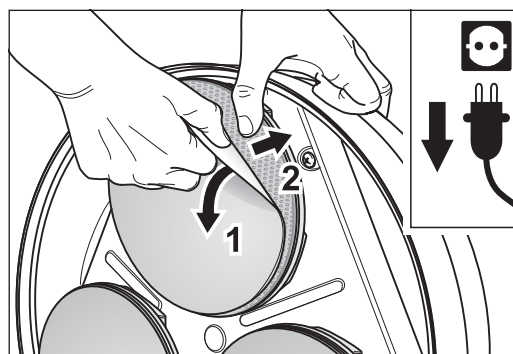

Fig. 31 Do not remove the flexible Velcro ring when removing worn-out sanding discs.
- 4 To replace worn sanding discs, simply pull the sanding disc off the flexible Velcro ring (fig. 31).